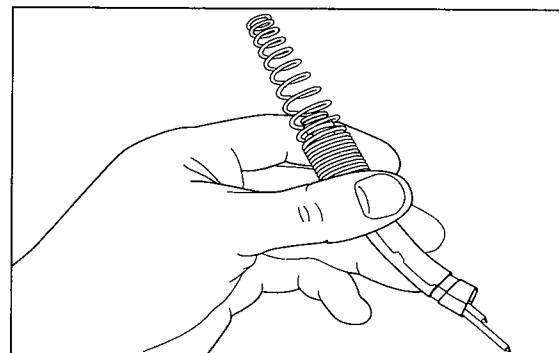

Figure 16
2. The slide should be removed completely to allow access to the mandrel jam. (See Figure 16)